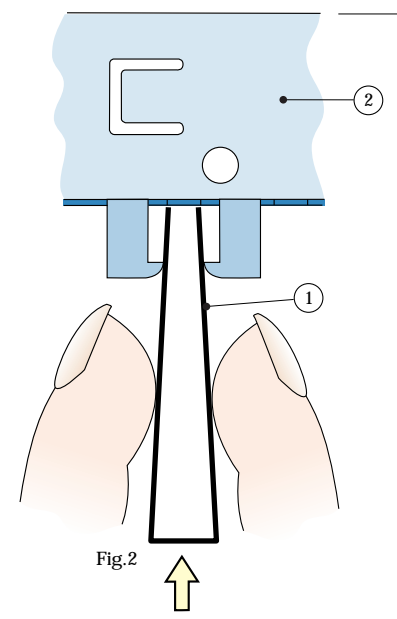
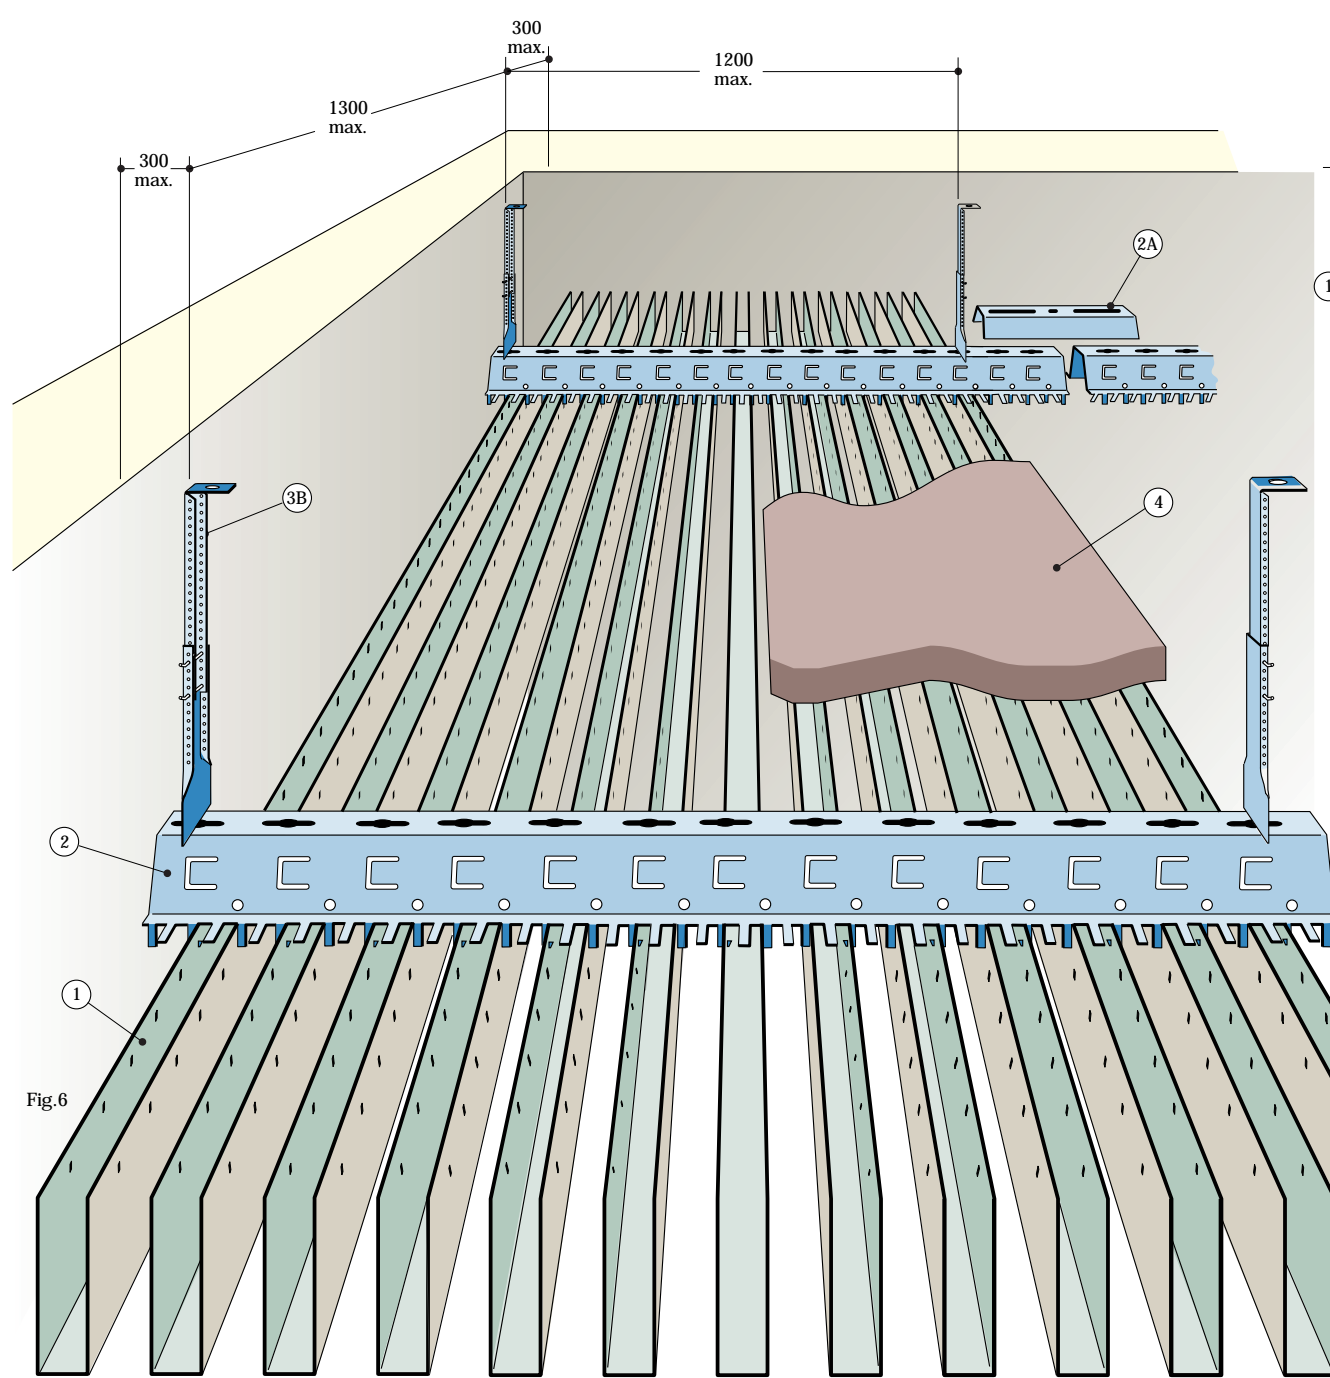
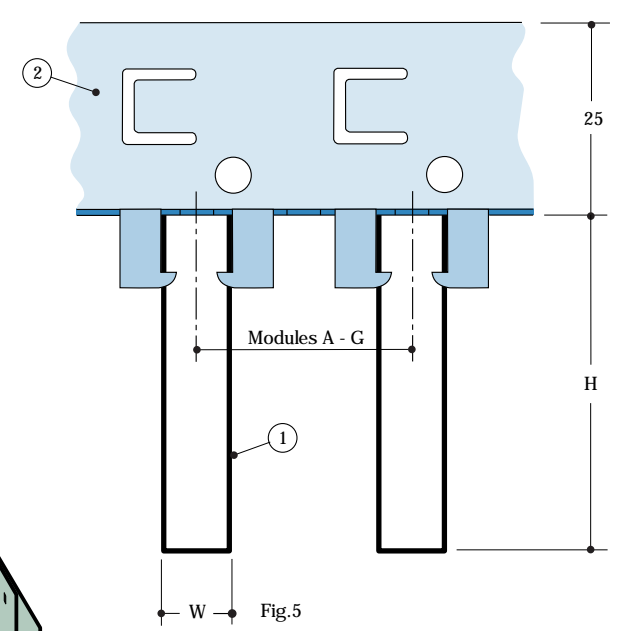

Fig. 2
Fig. 6
Fig. 5
Suspended from the structural soffit by adjustable hangers (3B) [Fig. 6] or (3A) (see rear page), Omega carriers (2) [Figs. 2 & 3] contain preformed tongues in their base, spaced according to LINUS profile
profiles (1) [Fig. 2]. When pressure is removed the tips penetrate the sides of the profile [Fig. 5] to make a secure attachment. Removal of the profiles is effected by this same action in reverse.
Manufactured from light gauge aluminium or mild steel, deep U formation LINUS profiles (1) [Fig. 5] are fixed as shown to suspended carriers (2) [Figs. 2, 3, 5 & 6] to create an open gap structure.
Special finishes are subject to minimum order quantity. Ceilings overlaid with inert fibrous insulation material (4) [Fig. 6] act as sound absorbing membranes.
H Linus profile height as Fig.5 in mm.
W Linus profile width as Fig.5 in mm.